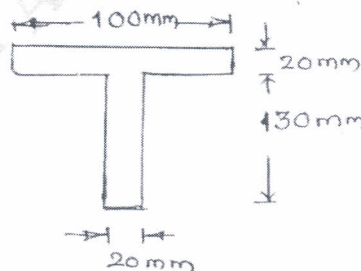

Fig. Q. 7(c)
- c. The T-section shown in fig Q.7 (c) is subjected to a shear force of 100kN. Draw shear stress distribution diagram and find maximum shear stress. (10 Marks)